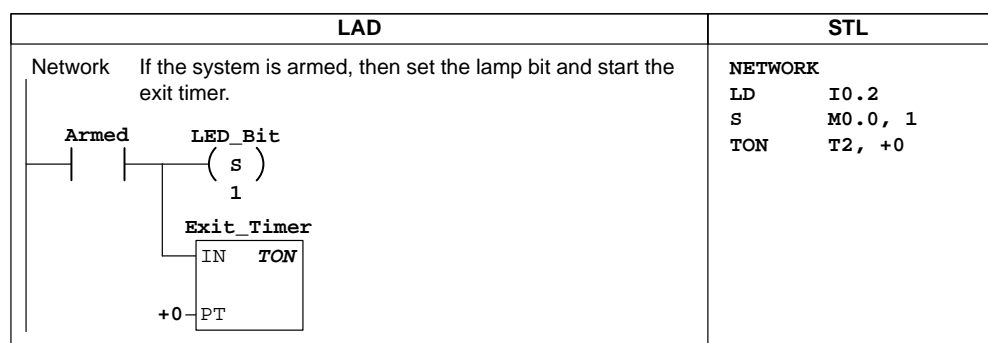

Figure 3-5 Control Logic for Arming the Security System
Figures 3-5 and 3-6 shows the control logic for arming and disarming the security system.
- As shown in Figure 3-5, arming the security system activates (enables) the bits of M memory that control the outputs (alarm siren and modem dialer). The control logic for arming the system also provides a delay between the turning on of the arm/disarm switch and the activation of the security system. This allows time for the owner to arm the system and exit the house. (There is a different timer that controls a low-level alert notification that allows the owner to disarm the system.)